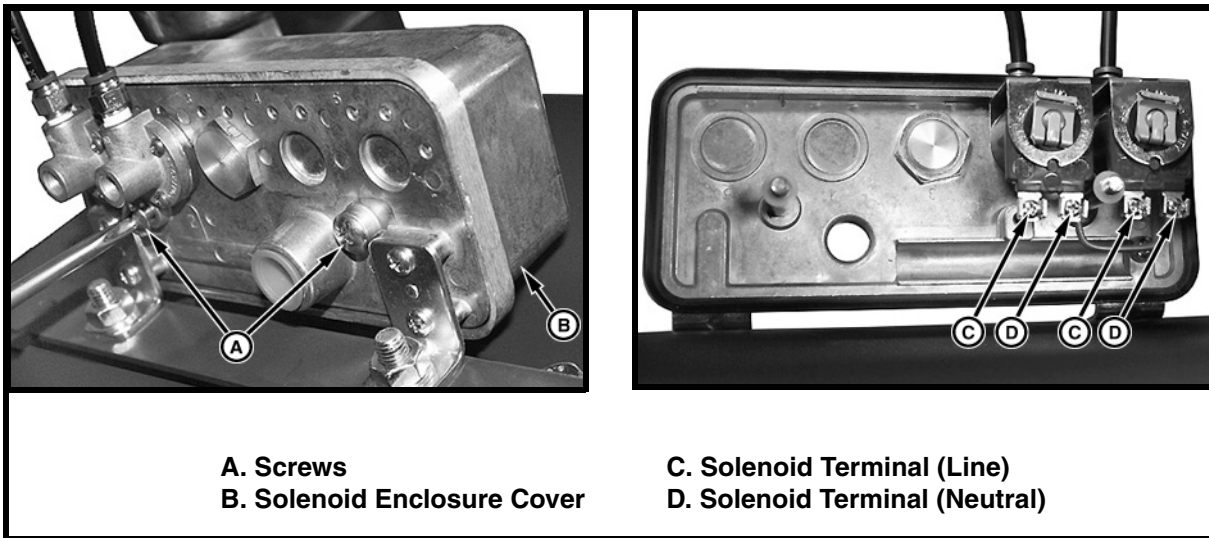

Figure 7. Solenoid Enclosure
7. Reinstall solenoid enclosure cover (B, Figure 7).